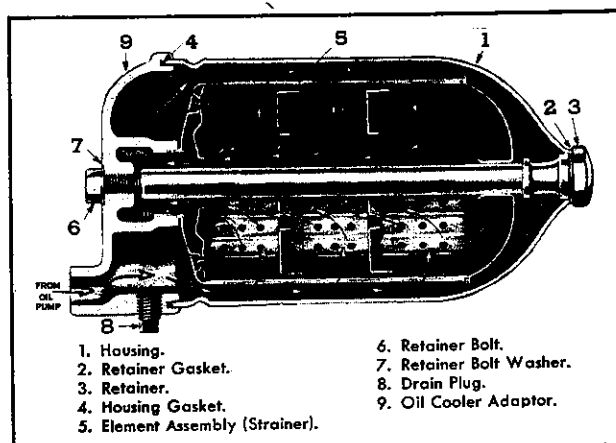

Fig. 24—Lubricating Oil Strainer Assembly.
**Description**—As shown in Fig. 24, the oil strainer, when used, is attached to the lubricating oil cooler adaptor. The strainer is introduced in the lubricating system between the oil pressure pump and the cooler so that all the warm oil delivered by the pump passes through the strainer, before it passes through the cooler.